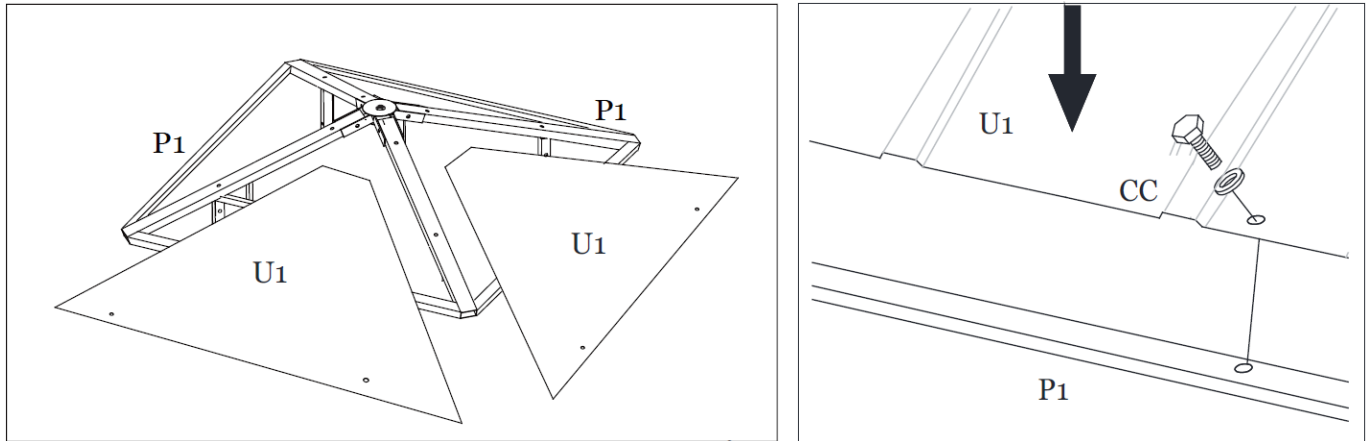

Figure 9-1
Step 9A: Attach the Roof Vent Panel (U1) to the Roof Vent Frame (P1) using Bolt (CC). See Figure 9-1.